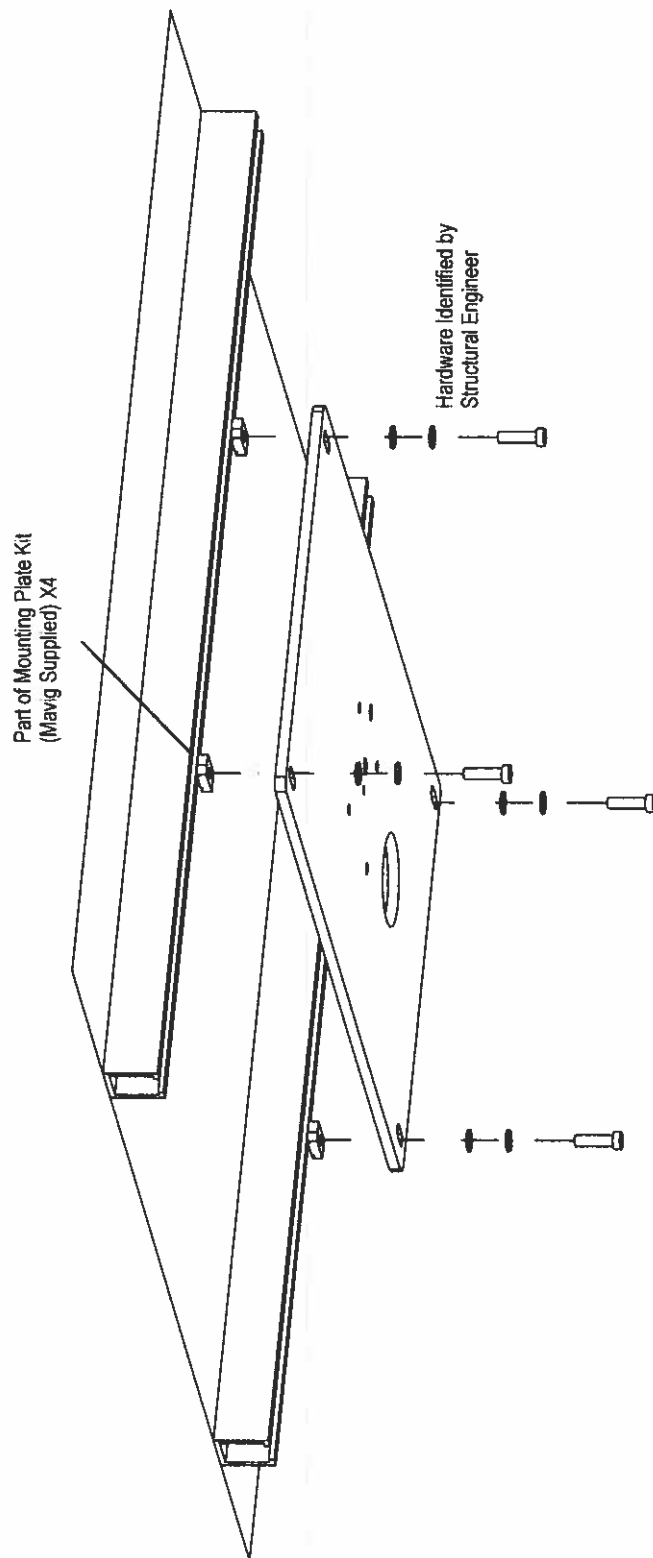

Figure 4 - Mounting Plate Installation
- b. Install the mounting plate to the nuts along the Unistrut® rails using M10x35 screws (Refer to Figure 4) and level with a block level, secure the screws finger-tight. If necessary, use shims.
- c. Apply Loctite® 221 to the screws and tighten with 22 Nm torque (Refer to Figure 4).